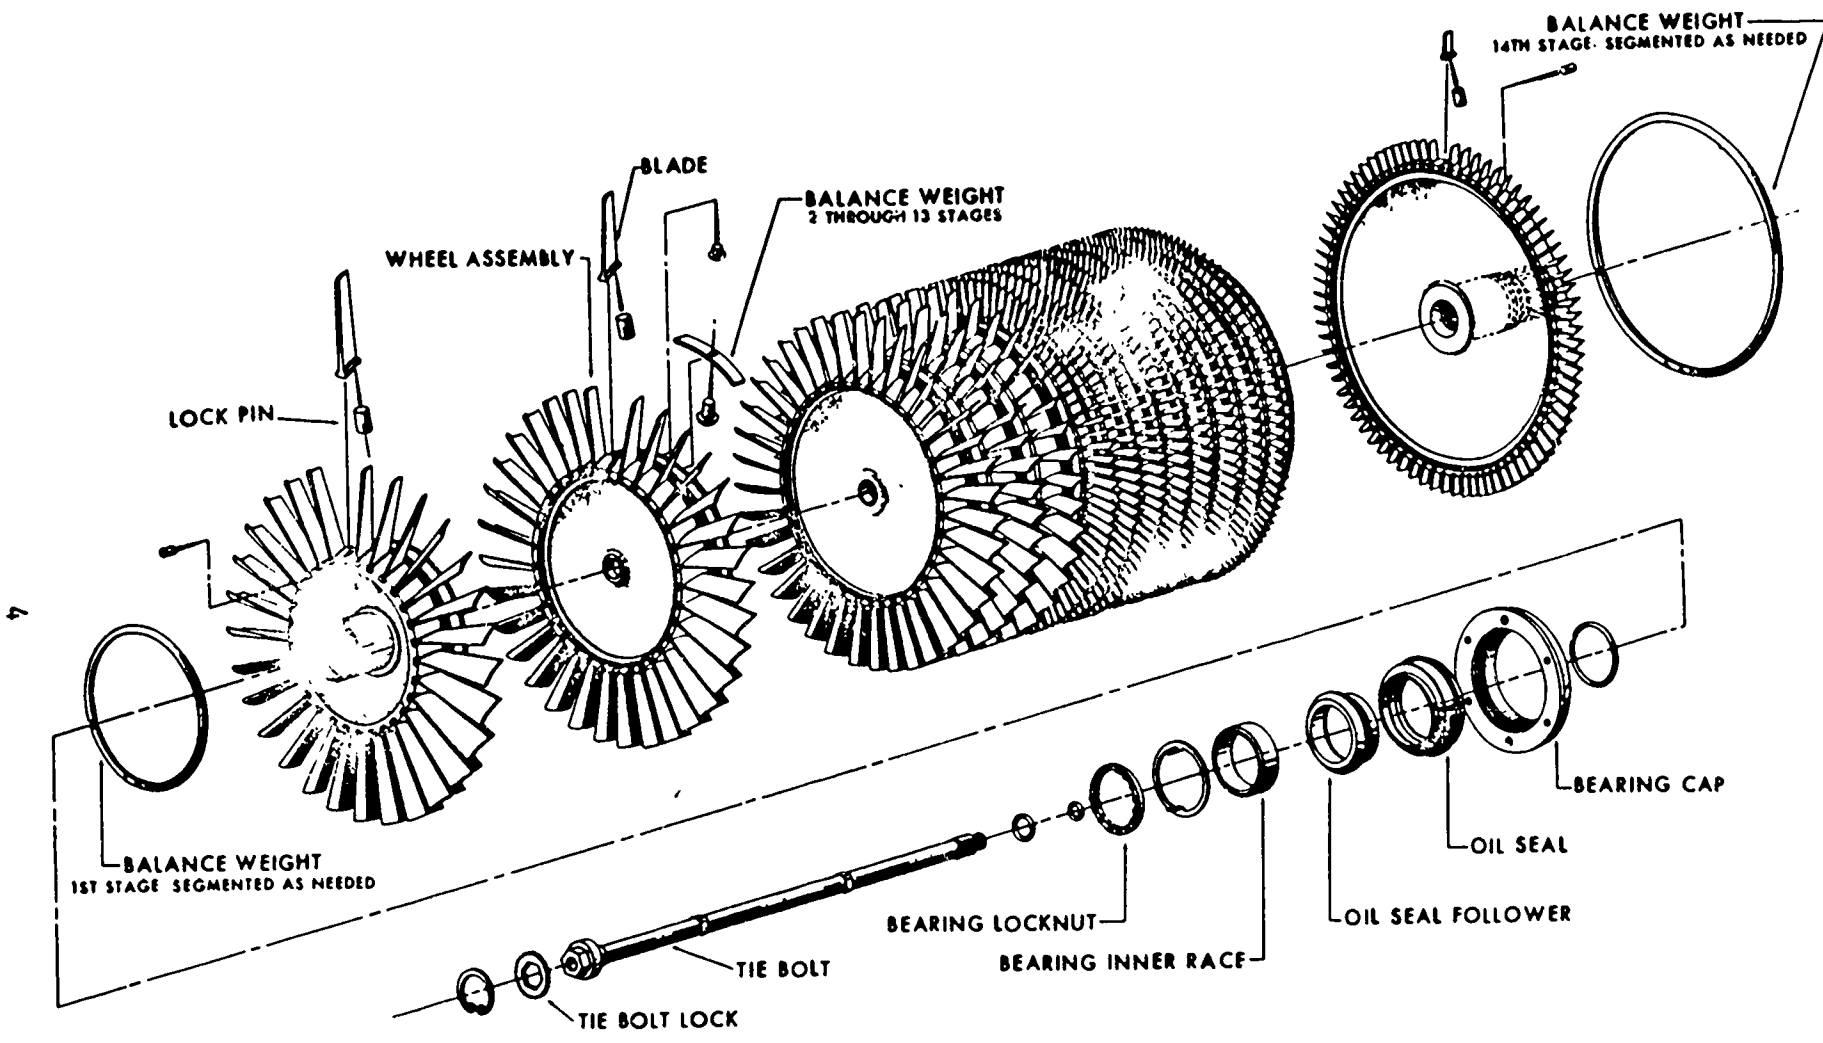
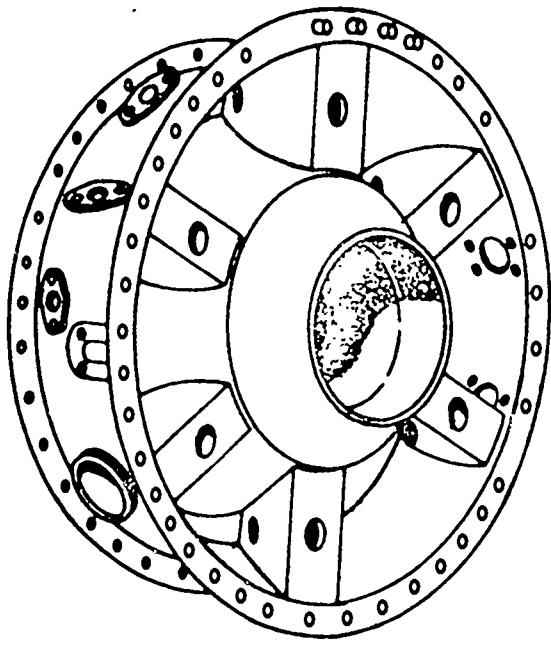

Figure 4. Compressor Rotor.
Figure 5. Diffuser Case.
(1) Secured to the rear face of the _____ housing.
(2) Consists of 26 vanes which guide the _____ flow into the _____ compressor.
(3) Anti-iced by _____ stage air.
e. Compressor (Figure 4)
(1) The purpose of the compressor is to furnish a large mass of air under moderate pressure to the _____ diffuser.
(2) Has _____ stages of compression.
(3) Driven by the _____ turbine.
f. Diffuser case (Figure 5)